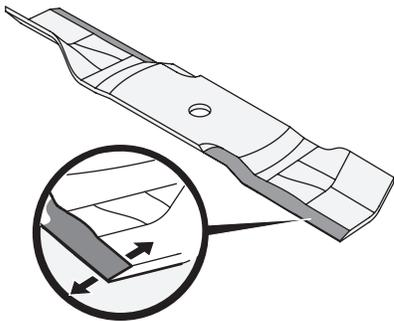

Figure 58
- To properly sharpen the cutting blades, remove equal amounts of metal from both ends of the blades along the cutting edges, parallel to the trailing edge, at a 25°-30° angle. Always grind each cutting blade edge equally to maintain proper blade balance (Figure 58).